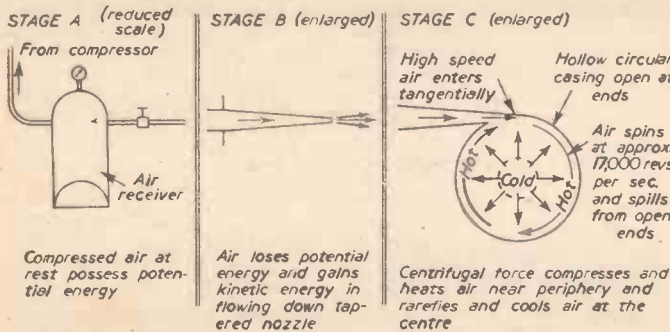

Fig. 1.—Basic principle of Ranque tube (diagrammatic only).
The principle of this simple and elegant device may be understood by reference to Fig. 1. Compressed air at rest has potential energy (A). If allowed to escape to atmosphere through the medium of a gently tapering nozzle, this potential energy is converted into kinetic energy in the fast-moving jet of air (B). In the Ranque tube this air jet is directed tangentially into a hollow casing (tube) as in C, where it is deflected and guided round the inside of the casing. Thus the kinetic energy of the jet is used to create a spinning mass of air inside the casing, rotating at an extremely high speed.